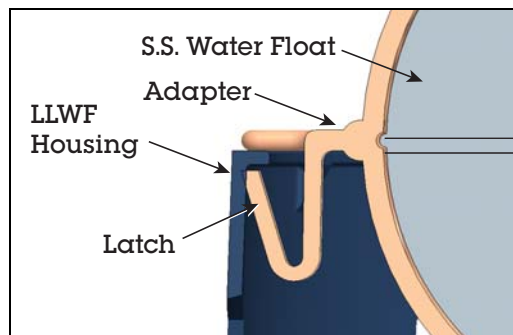

Figure 2. Correct Adapter Latch Position Under LLWF Housing Flange
- Visually inspect the six latches on the adapter to ensure they are fully seated under the flange of the LLWF housing. Failure to do so could result in loss of low level water detection (see Figure 2).